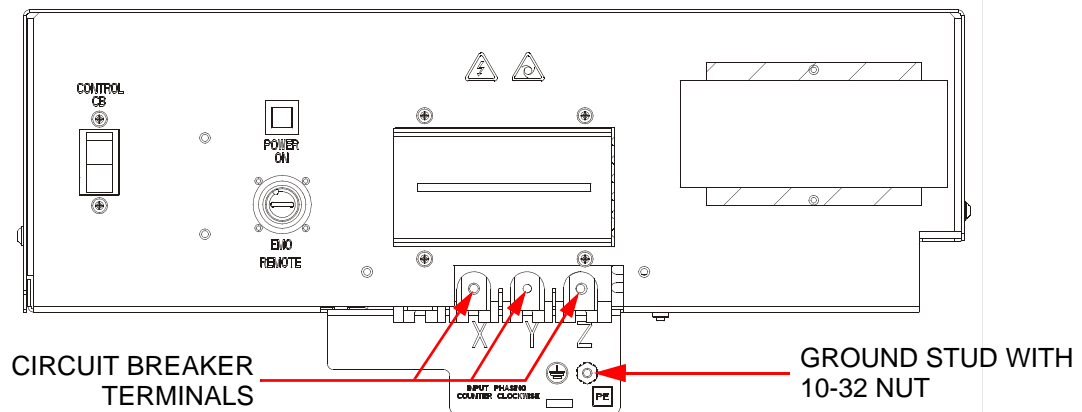

Figure 4-5: Circuit Breaker Area
9. Remove the terminal screws from the circuit breaker terminals X, Y, and Z in Figure 4-5 on page 4-11.